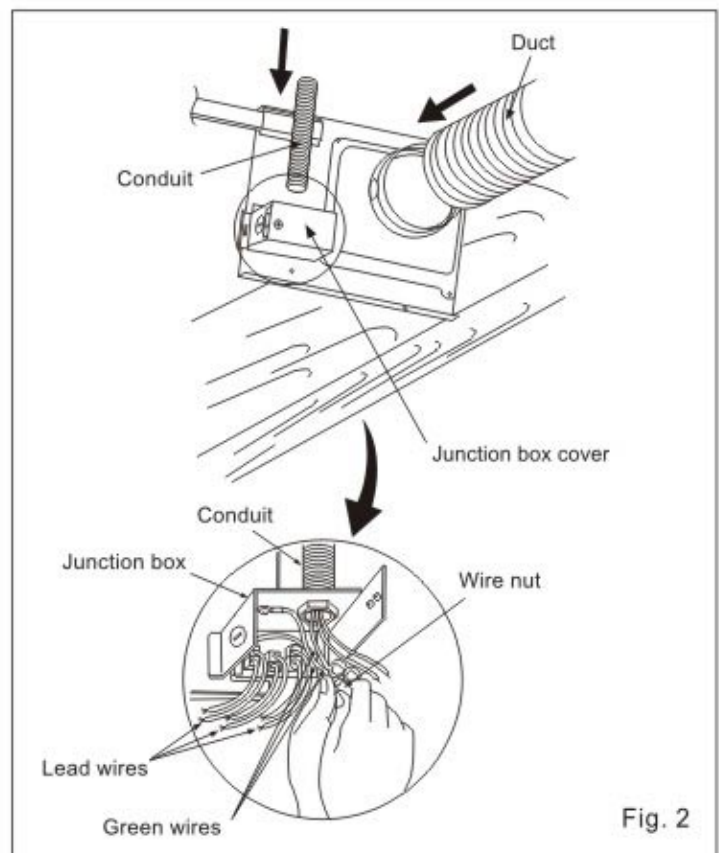

Fig. 2
3. Remove junction box cover and secure conduit to junction box knock-out hole. (Fig.2)
6. Inspect duct work and wiring following Fig.2 of page 6.